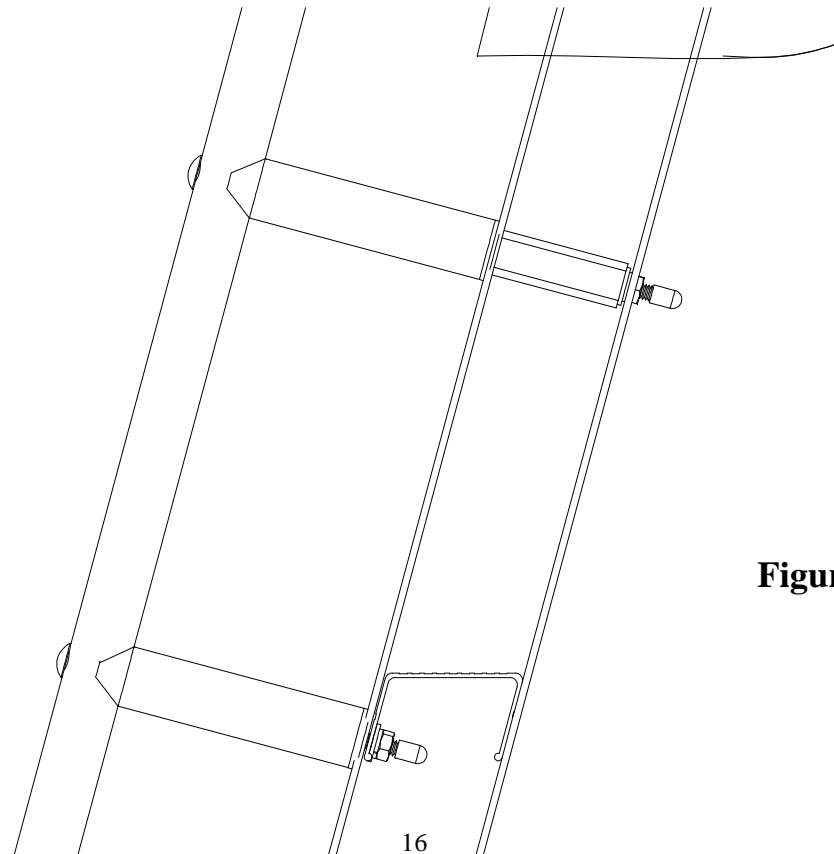

**Figure 22**
- 22)** If necessary the legs can be adjusted up and down within the leg sockets to help adjust for level. Once the slide is properly leveled the legs shall be permanently attached by drilling a 1/4" hole into each leg using the hole on the leg socket as a guide and fastening with a (#10) 5/16" Hex Head Washer Tek Head Screw. See Figure 22.